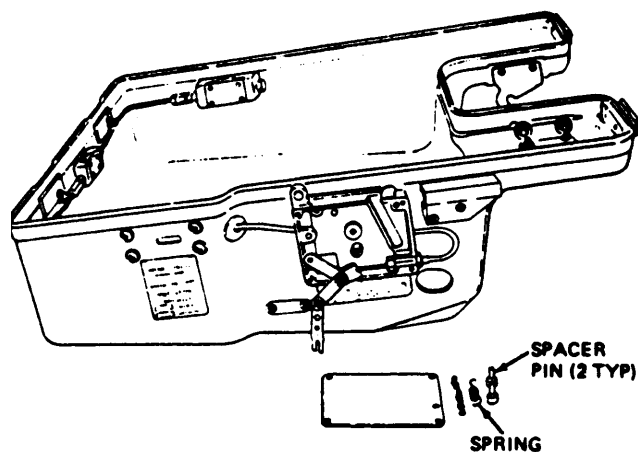

Figure 7-5.—Removing spring and spacer pins.
3. Remove spring and two spacer pins. Lift actuating lever assembly with cable inserted in clevis from housing (fig. 7-5).